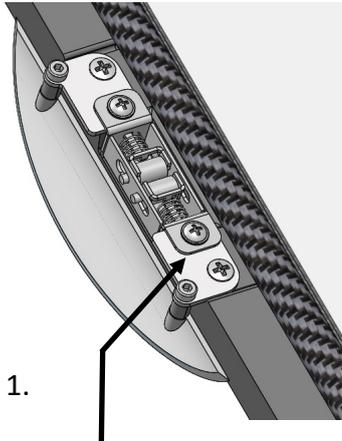
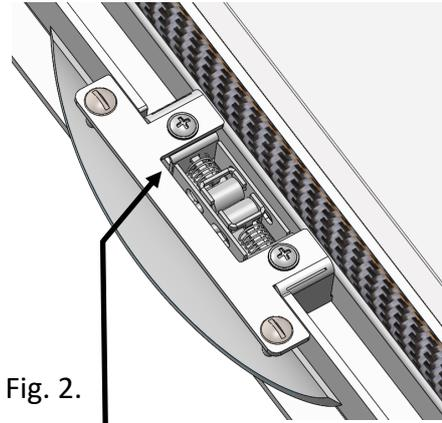

Fig. 1.
Fig. 2.
- In the inside of the firebox on the right hand side (BEHIND PIN) remove the lock nut, using a 10mm spanner, see Fig.1.
- Using a pair of pliers, unscrew the pin, using the flats built into the end of the pin. Withdraw the pin from the stove body, see Fig.2.
- *****NOTE***** It is important that you take **NOTE** of the positioning of the catch assembly mounting of your door catch. The early production versions had the catch mounted on top of the plates, see Fig.1. The later (current models) have the catch assembly mounted below these plates see Fig.2.